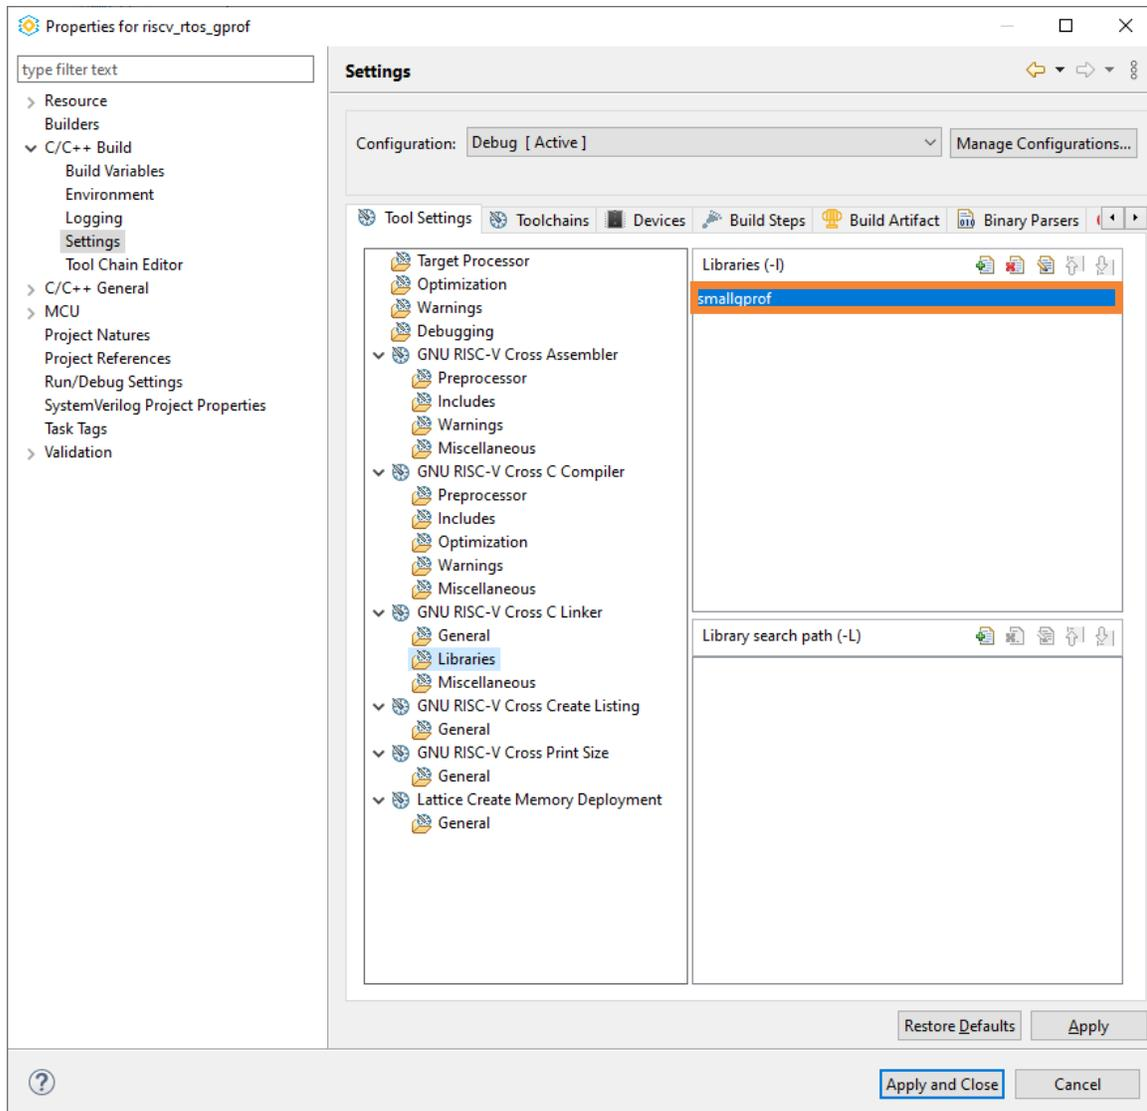

Figure 7.7. smallgprof Link Library
5. Select **GNU RISC-V Cross C Linker > Libraries**. Add the library, `smallgprof` (Figure 7.7).